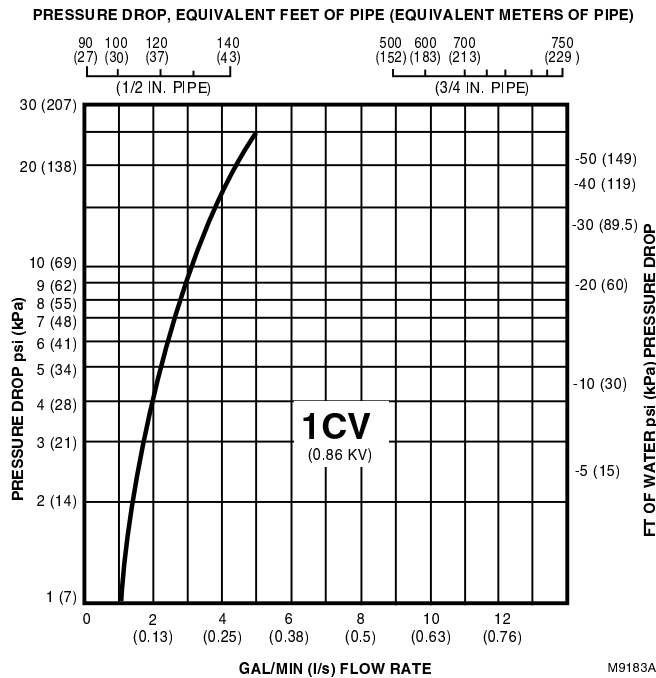

Fig. 3. Flow characteristics of 1 C_V (0.86 kV) flow.
The pressure drop in psi (kPa), equivalent ft (m) of pipe, or feet of water (kPa) can be calculated from Fig. 3 through 8 as follows:
- ① Calculate the flow rate to heat the zone.
- ② Determine the C_v (kV) rating of the motorized valve.
- ③ Select the graph corresponding to the C_v (kV) rating (Fig. 3 through 8).
- ④ Determine the pressure drop across the valve using the following procedures for calculating pressure drop.